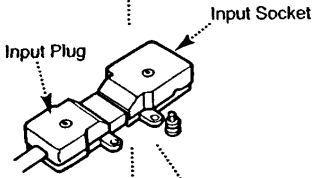
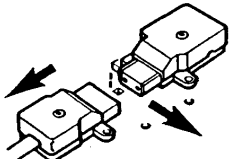

Fig. 21
Fig. 22
2. Disengage the lugs on the socket from their slots (Fig. 21). Pull the mains input plug from the inlet socket (Fig. 22).